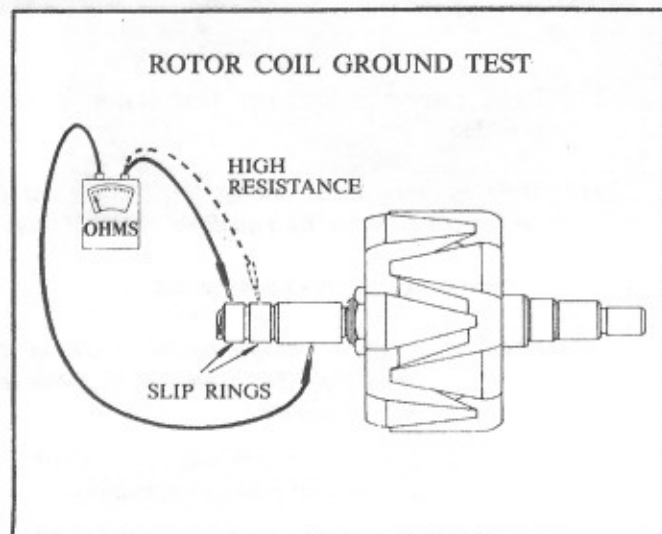

Figure 13
- 13.1 Connect one test lead to one slip ring and the second test lead to bearing inner race. If test light turns on, or if a LOW resistance reading is observed, then the rotor coil is grounded and must be replaced. Fig. 13.